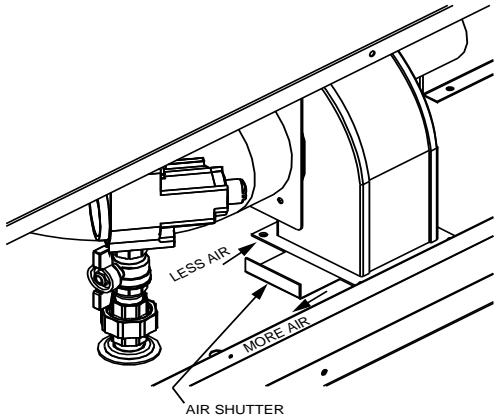
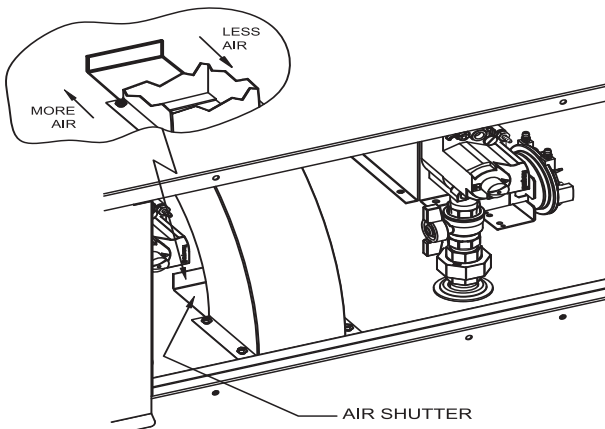

FIG. 56 Adjusting Air Shutter 399,999 - 750,000 Btu/hr Models
FIG. 58 Adjusting Air Shutter 990,000 - 2,070,000 Btu/hr Models
Note: On the 399,999 - 750,000 Btu/hr models the air shutter is adjusted on the side of the fan duct as depicted in FIG. 56. On the 990,000 - 2,070,000 Btu/hr models the air shutter is adjusted on the rear of the fan duct as depicted in FIG. 58.
3. Depending on model, the air shutter(s) may be located either on the side or the rear of the fan duct. Locate the air shutter at the side/rear of the fan duct (see FIG. 56 and 58). Move the air shutter towards the rear or left side of the unit to increase air pressure. Move the air shutter towards the front or right side of the unit to decrease air pressure.